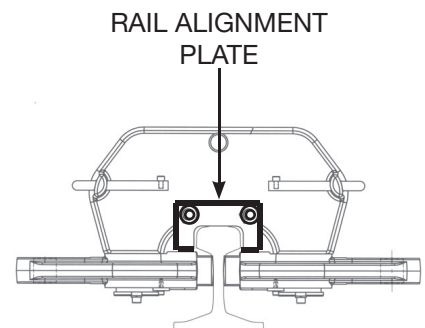

FIGURE 5
6. Install rail alignment plates in place of rail hooks (**FIGURE 5**). Secure plates with nuts and bolts provided.